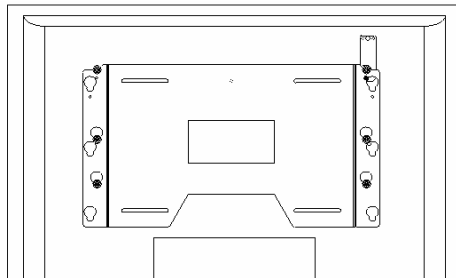
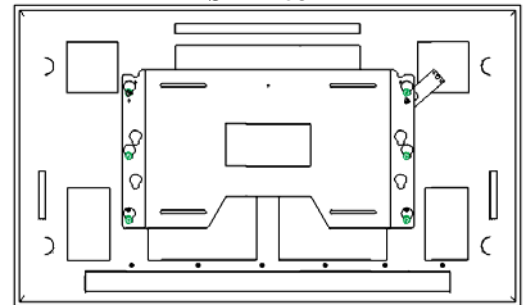

Figure 6
Figure 7
4. With the aid of another person, lift the display up to the Chief mount, aligning mounting buttons with the teardrop slots and setting into place (see Figure 6 or Figure 7).